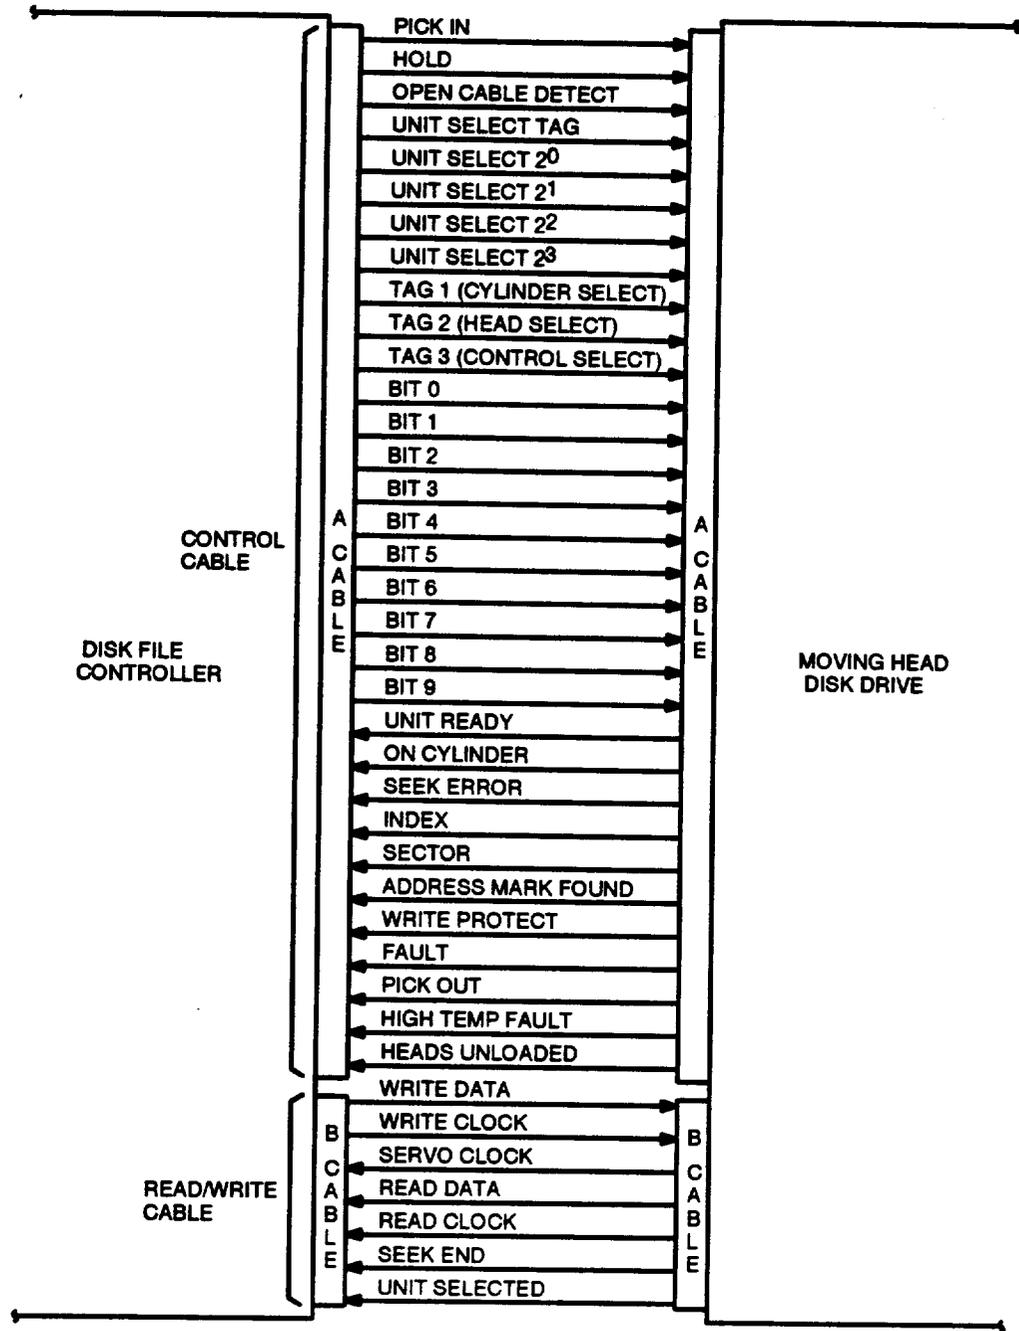

Figure 8. Control and Read/Write Cables
3.04 The control cable carries 31 control and address signals to and from the disk drive (see Figure 8). Table B lists these signals. The last drive in a string must have a terminator installed on the "control cable out" connector in place of a continuing control cable. The read/write cable contains seven signals which are listed in Table C.